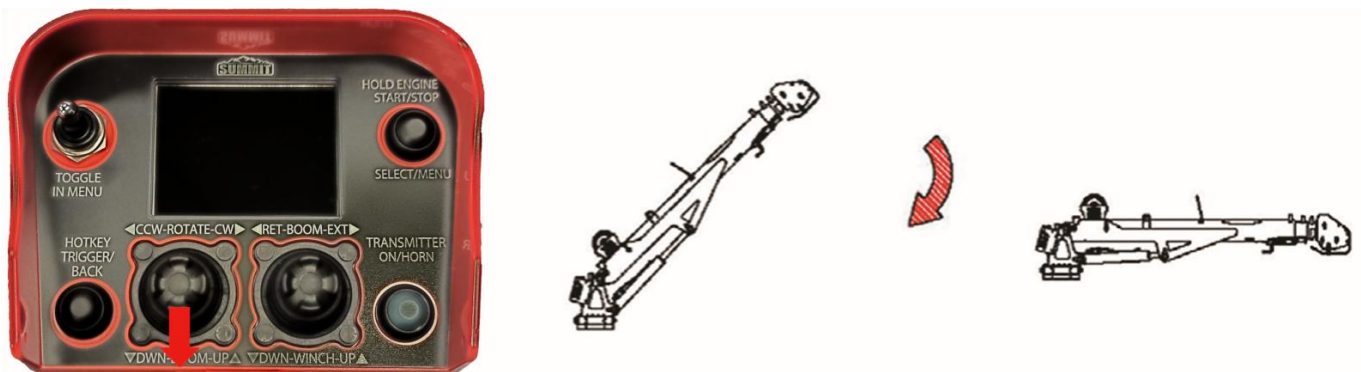

Figure 2-49.
- Press down on the left joystick to lower the boom (see Figure 2-49).